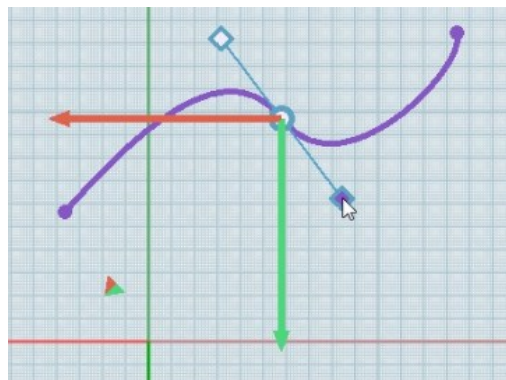

Figure 76 – Symmetrical controller
- **symmetrical** (Figure 76). The control point and two markers always lie on the same straight line. If you pull the marker of one part of the controller, the second will change symmetrically to the first. The shape of both segments adjacent to this control point will change accordingly. This controller type is enabled by default for a new point (the last point of a spline or an additional point added);